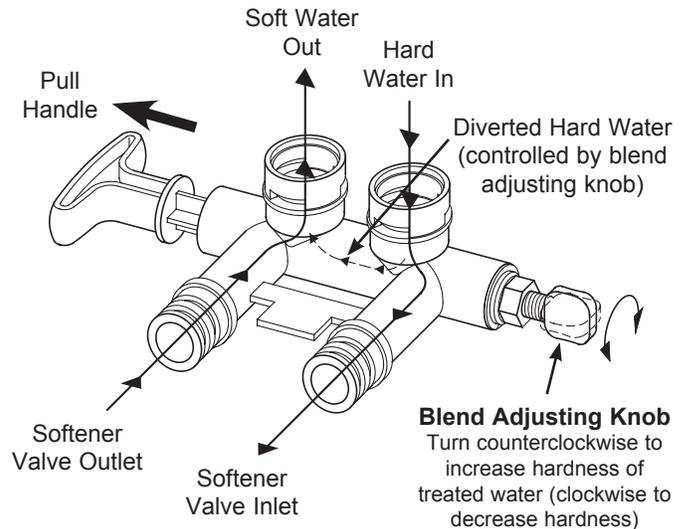

FIG. 14
The bypass blending valve works as a typical push-pull bypass valve, but has the added ability to finely adjust hardness of the treated water leaving the water softener. If slightly harder water is desired than is normally output by the water softener, this bypass blending valve can divert a small stream of hard water before it enters the water softener and blend it with the exiting softened water. The amount of water diverted is controlled by turning a blend adjusting knob on the end cap of the valve stem (See Figure 14).
1. When the bypass valve is in service position (normal softener operation), with handle pulled all the way out (See Figure 14), **increase hardness** of treated water by turning the blend adjusting knob **counterclockwise** up to 6 turns from the fully closed position. While adjusting this knob, hold the bypass valve handle to prevent the stem from rotating.